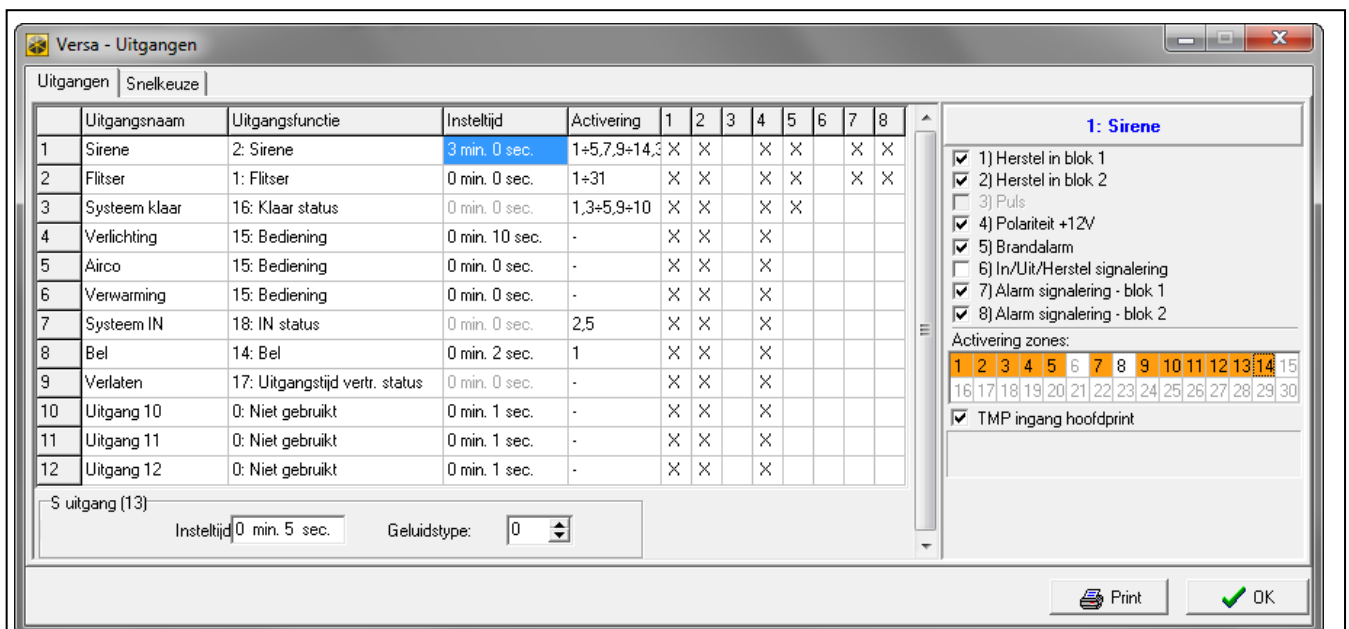

Fig. 10. DLOADX programma: "Versa – Uitgangen" scherm.
- DLOADX programma: “Versa – Uitgangen” scherm (Fig. 10).